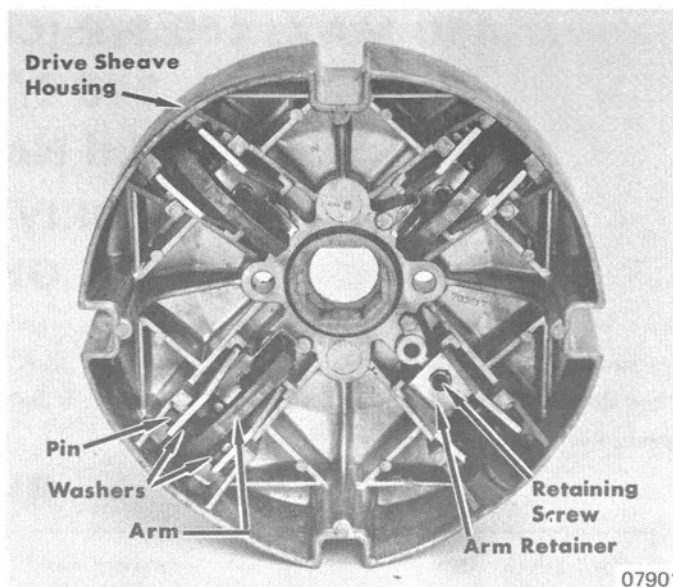

Figure 4. Drive Sheave Housing and Arms
- b. Remove screws, tab washers and arm retainers. (Figure 4)
1. Reassemble drive sheave housing (Figure 4) as follows: